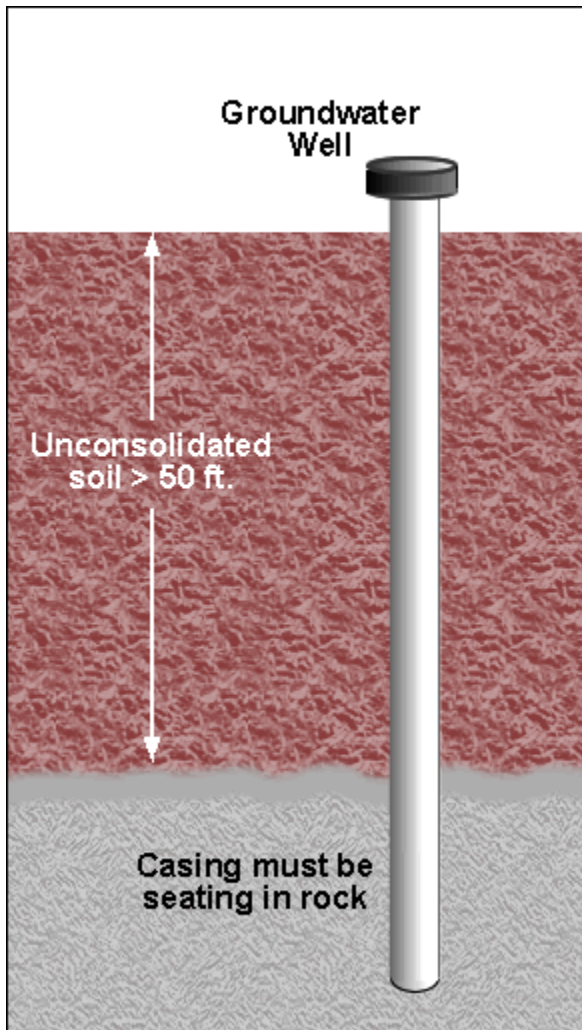

Figure 2.10a
- ☑ Where depth of unconsolidated material above the aquifer is more than 50 feet, the casing is to be seated in unbroken rock (Figure 2.10a).